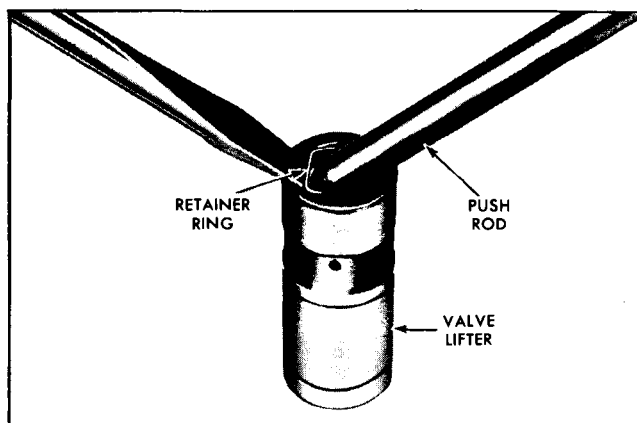

Fig. 6-23 Removing Push Rod Seat Retainer
1. Remove push rod seat retainer ring by holding seat down with push rod while dislodging ring from lifter body with a pointed tool (Fig. 6-23).